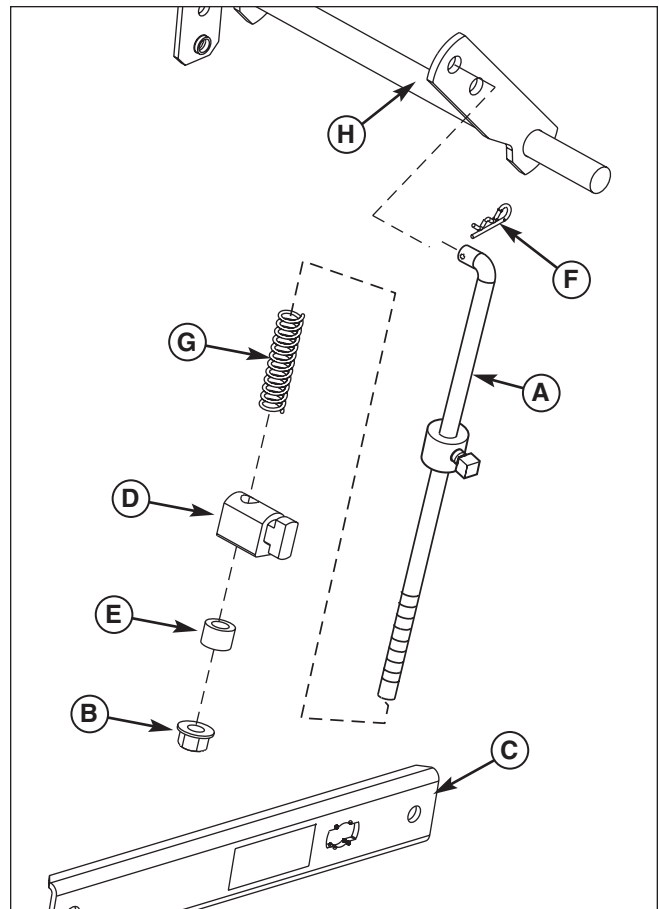

Figure 35. Install Lift Rod
7. Install the spring (G, Figure 35) and special nut (D) in the same location that was marked in step 5.
8. Install the spacer (E) and locknut (B).
9. Connect special nut (D) to lift bar (C).
10. Reinstall the rod (A) to lift (H) and secure with hair pin (F).